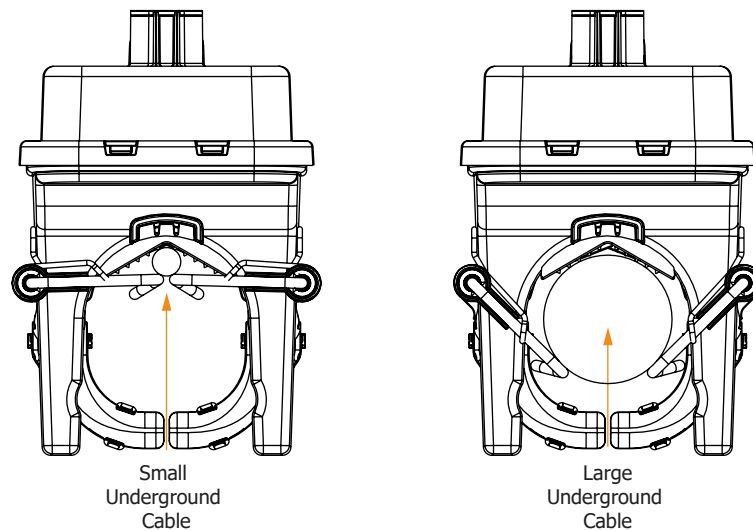

Figure 3.2 Small and Large Cable Clasp Arm Positioning
- Step 4. Apply sufficient force to the prop and action mechanism to ensure that both clasp arms anchor firmly around the underground cable. To securely position the UGFI to grip the underground cable, consult the supplied underground cable diagram in *Figure 3.2*, which illustrates the correct placement for both small and large cable conductors.